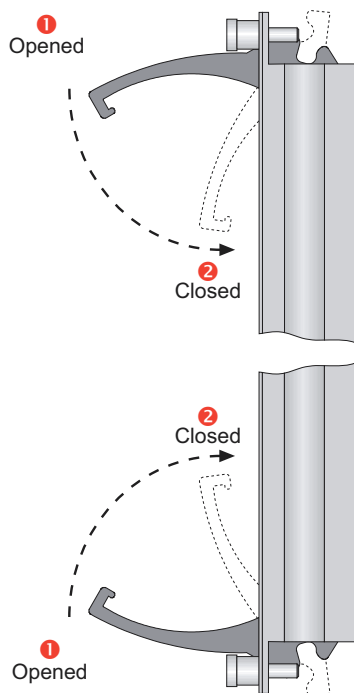

Figure 1 Positioning ejectors before removing a module
- 4 Pull the ejector handles located at the top and bottom of the module so that they are in the open position (position 1), as shown in Figure 1.
- 4 Verify that the ejectors are in the open position, as shown in Figure 1.
- 6 Insert the module into the midplane by simultaneously depressing both ejectors (as shown in Figure 1) and exerting forward pressure on the module.